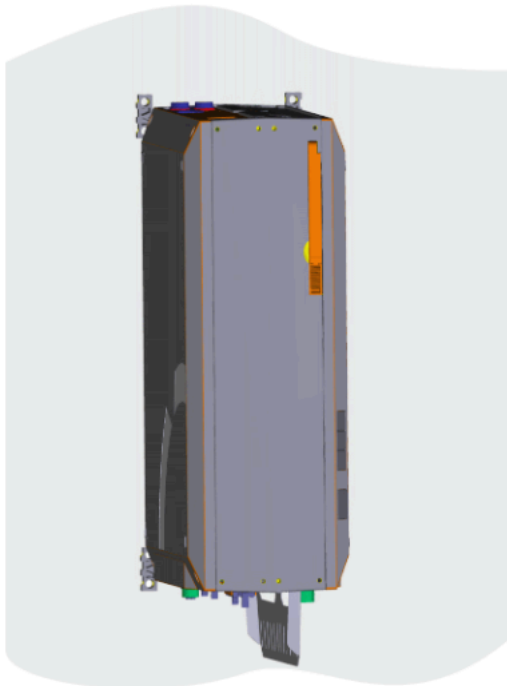

Fig. 5-6: Vertical installation on wall
- Vertical installation on wall (>>> Fig. 5-6)